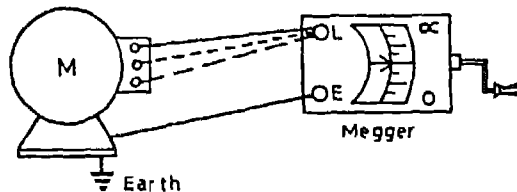

Fig. 13.3 Measurement of Insulation Resistance of Electrical machine
- (v) Connect L and E terminals of the megger to the electrical machine (AC/DC motor, generator, control gear, domestic apparatus, etc.) as shown in the Fig. 13.3. E of the megger to the 'good earth' and 'L' of the megger to any one of the machine/equipment terminal one by one. Rotate the handle of the megger, observe and record readings. If it shows infinity, the insulation of the machine/equipment is 'the best'. If the megger pointer indicates high megohms it is 'good' and if it indicates below 1 megohm (half megohms in wet atmospheric conditions) it is 'poor', and the insulation in the machine needs replacement.